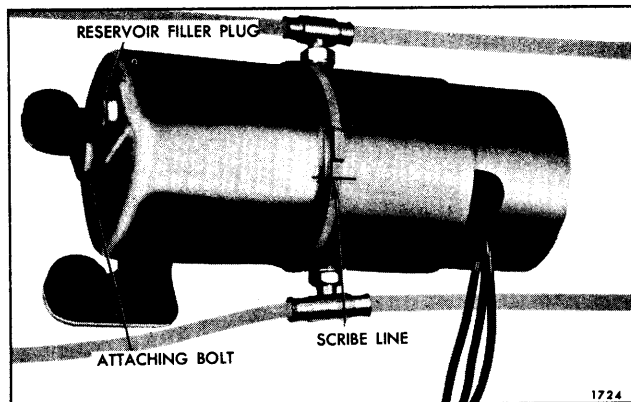

Fig. 13-60—Motor and Pump Assembly -
2. Scribe a line across pump end plate and reservoir tube to insure a correct assembly of parts. See Figure 13-60.